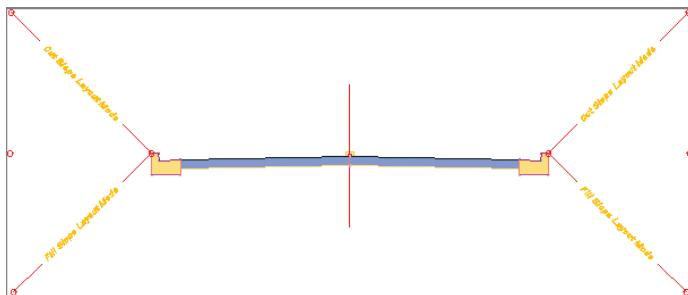

FIGURE 9.13 The assembly with newly added **BasicSideSlopeCutDitch** subassemblies on either side
- Click the marker in the upper-left corner of the Left Curb subassembly. Click the marker in the upper-right corner of the Right Curb subassembly. The assembly should now look similar to Figure 9.13.